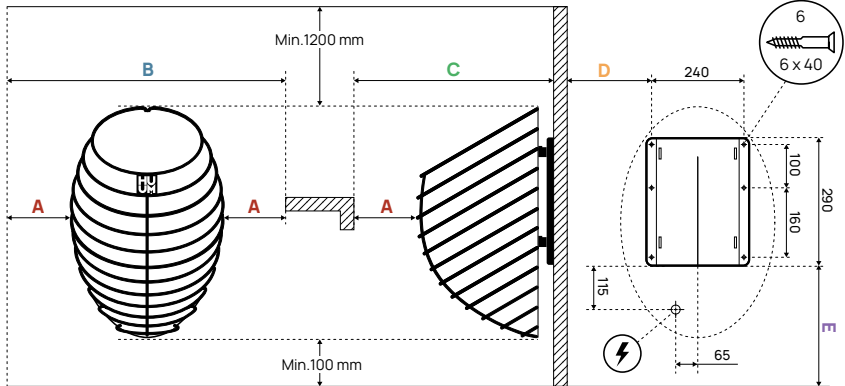

Figure 1. Positioning of the heater.
- The opening for the power cable is located on the back of the heater. The exact position of the cable on the wall is measured in relation to the heater mounting plate and has been indicated in **Figure 1**.